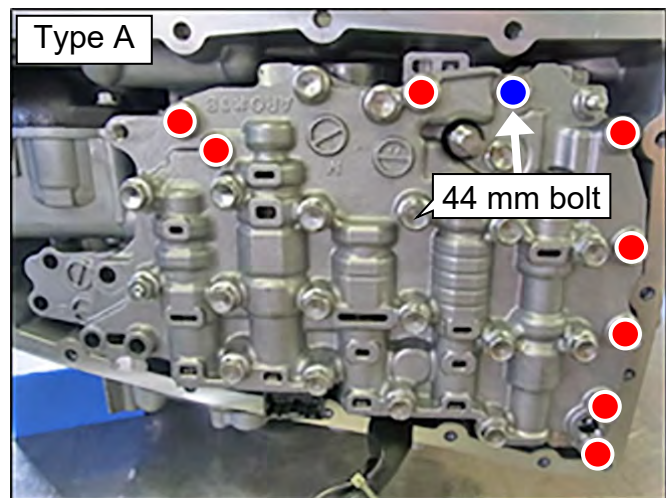

Figure 35
7. Remove the valve body mounting bolts, and then carefully remove the valve body (see Figure 35).
- 54 mm bolt - eight (8) pieces
- 44 mm bolt - one (1) piece